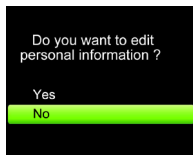
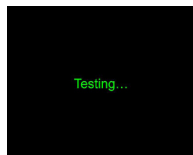

Figure 2 Selective interface
Figure 3 Testing
1. The device is in (Selective interface) after turn on as shown in Fig.2, press “up” or “down” key to select “No”, then press “confirm” key to enter (Testing) interface as shown in Fig.3. (Note: If select “Yes”, it will enter (Personal information) interface to edit personal information, after exit, it will return to (Testing) interface.)
Under (Menu) interface, select “Personal information” to enter its interface as shown in Fig.9, in which user can edit patient information (Note: Under (Selective interface) as shown in Fig.2, if selected “Yes”, you can enter (Personal information)interface also.).